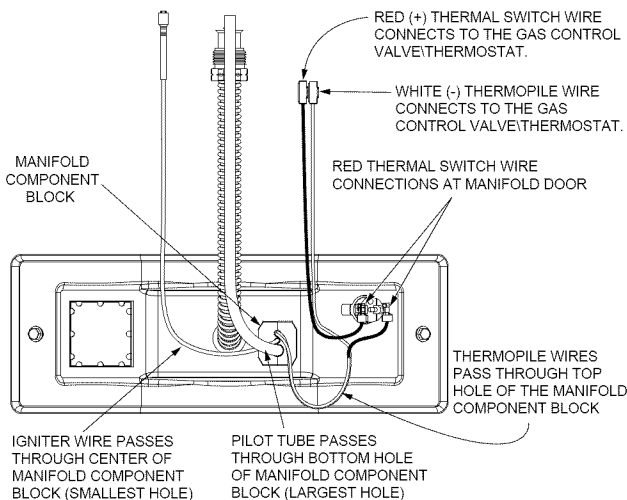

FIGURE 37.
7. Route the new pilot tube, new igniter wire and new thermopile wire through the opening in the manifold door (Figure 37).
7. Connect the white (-) thermopile wire to the gas control valve/thermostat. Then connect the red thermal switch wires to the thermal switch on the on the manifold door. (Figure 37).